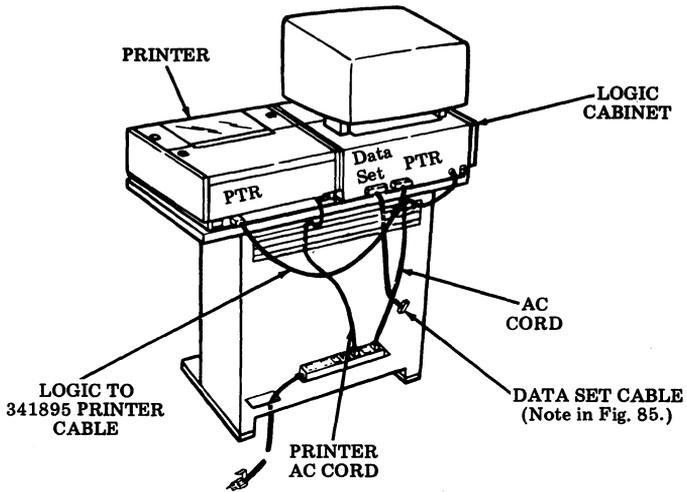

Fig. 88—KDP Pedestal-Mounted, Friction Feed Printer
- Fig. 88 — KDP Pedestal-Mounted, Friction Feed Printer